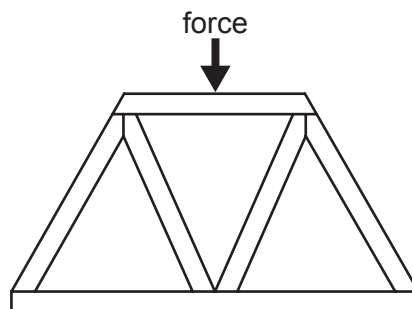

Fig. 1.2
- (c) Fig. 1.2 shows structure **C** with a force acting on it.